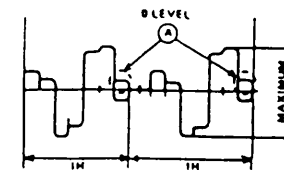

Fig 2.
- 3: Adjust T402 so that the waveform becomes maximum as shown in fig. 2.